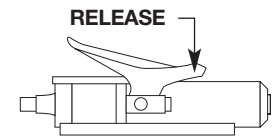

Fig. 6b
To release load pressure or retract a cylinder, depress the **RELEASE** end of the treadle as shown in Figure 6b.
- A. Release the hydraulic pressure by depressing the treadle as shown in Figure 6b.